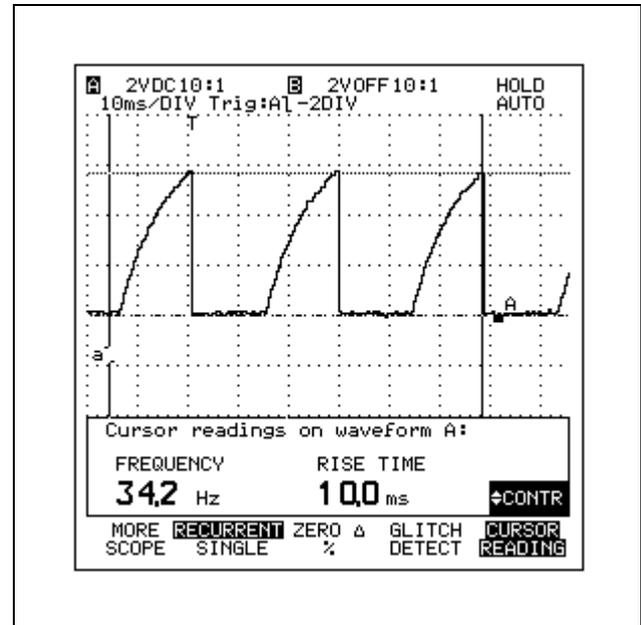

Figure 8-19 Time Cursors Measurement
9. Use and to locate the cursors as shown in Figure 8-19.